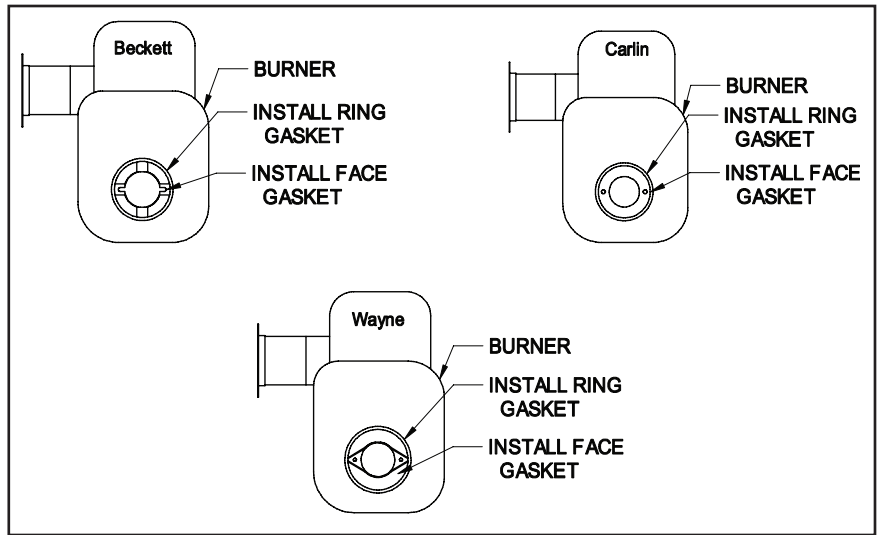
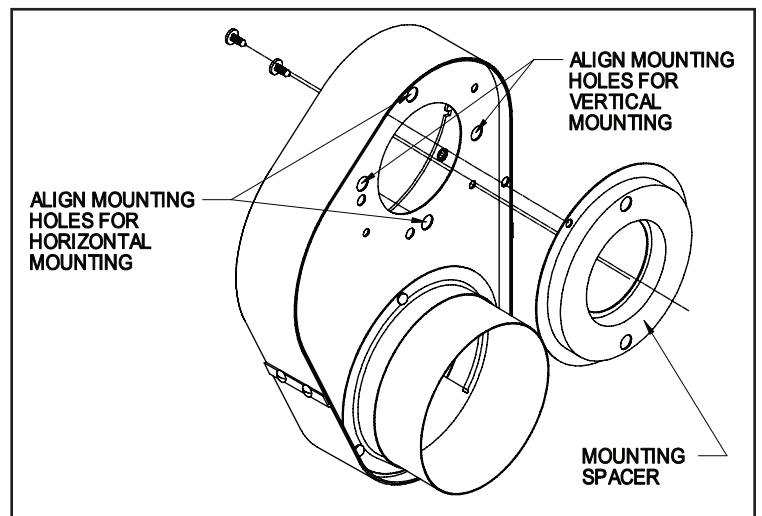
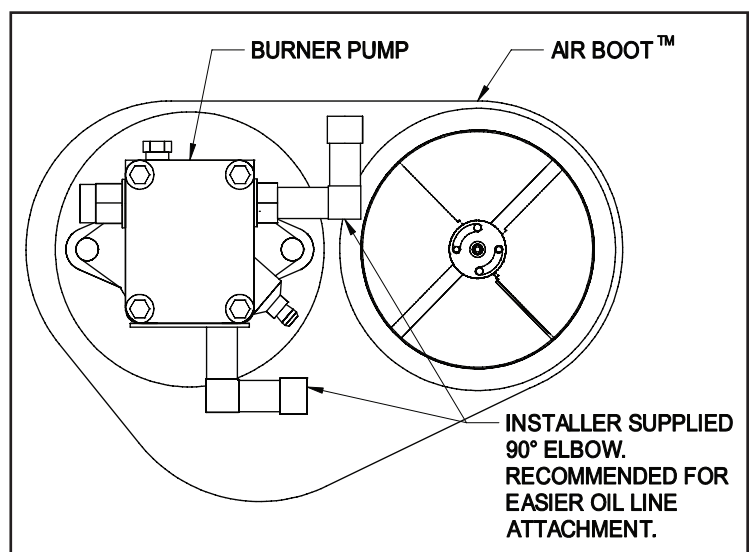

Figure 1
Figure 2
Figure 3
1. Remove the oil pump and air bands from the burner housing. Install the sealing gaskets onto the burner housing. Failure to install the ring gasket onto the burner housing will result in unlevel boot, noisy operation, and improper CO² readings. (See Figure 1) Install mounting spacer onto Air Boot. (See Figure 2) Position the Air Boot over the burner housing on the intake. The Air Boot™ can be mounted onto the burner in a horizontal or vertical position. Install mounting spacer onto Air Boot™. Align the holes in the Air Boot with the holes in the housing and re-attach the oil pump. (See Figure 3)